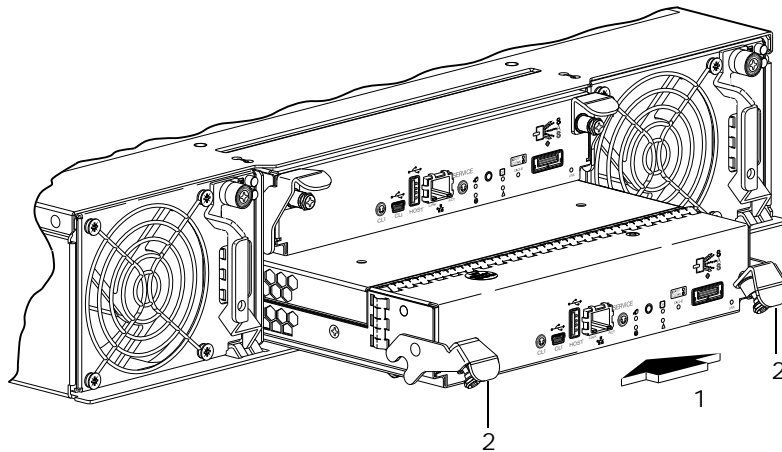

Figure 20 Inserting a controller module
1. Loosen the thumbscrews; press the latches downward (see Figure 20).
2. Slide the controller module into the enclosure as far as it will go (1).